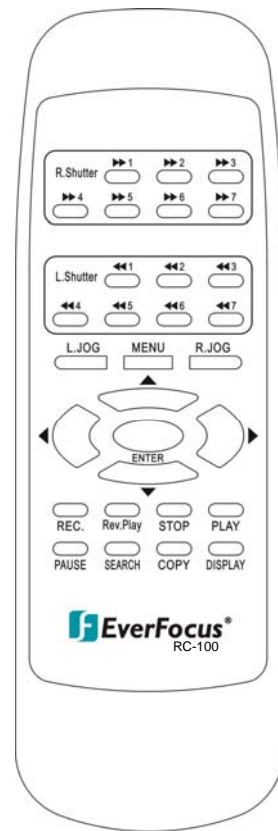

Figure 1
- The remote controller is an accessory to enhance the handy operations of EDSR100 (Figure 1). You can do all the settings and operations by the remote controller. The effective distance is up to 10 meters without any obstacles. The keypad functions are as same as the front panel of the EDSR100 .